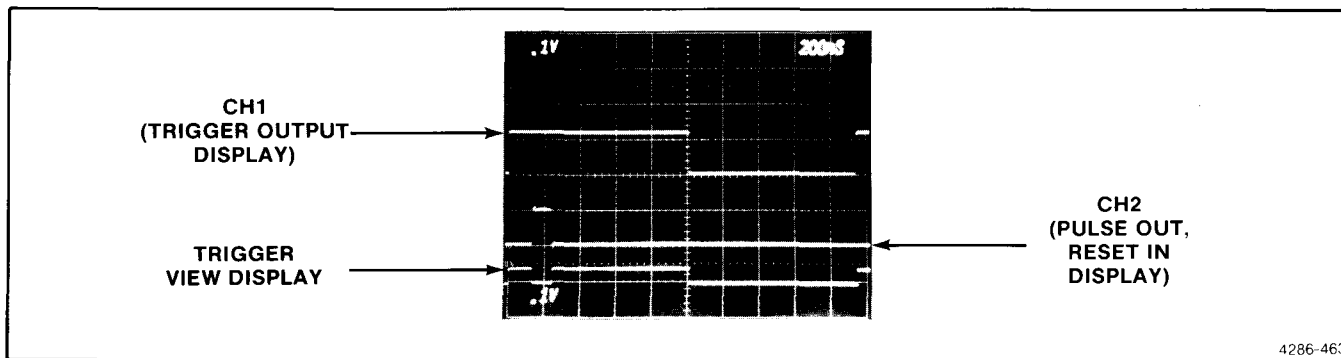

Figure 4-16. Relationship between the CH1, CH2, and Trigger View waveforms when checking the reset input pulse width.
- CHECK**—that the display is triggered, and appears the same as illustrated in Figure 4-16.